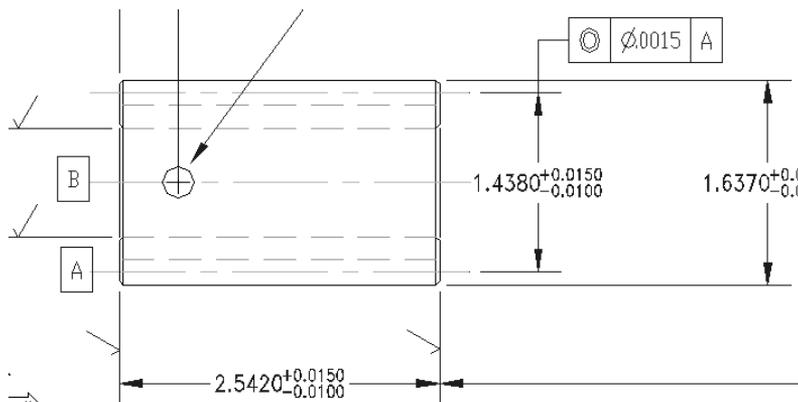

Figure 15-29: Deviation tolerances.
- ♦ **Deviation** tolerances can have different upper and lower amounts and are therefore shown after separate plus and minus signs, as shown in Figure 15-29. When you choose a deviation tolerance, the Upper Value and Lower Value text boxes become active.